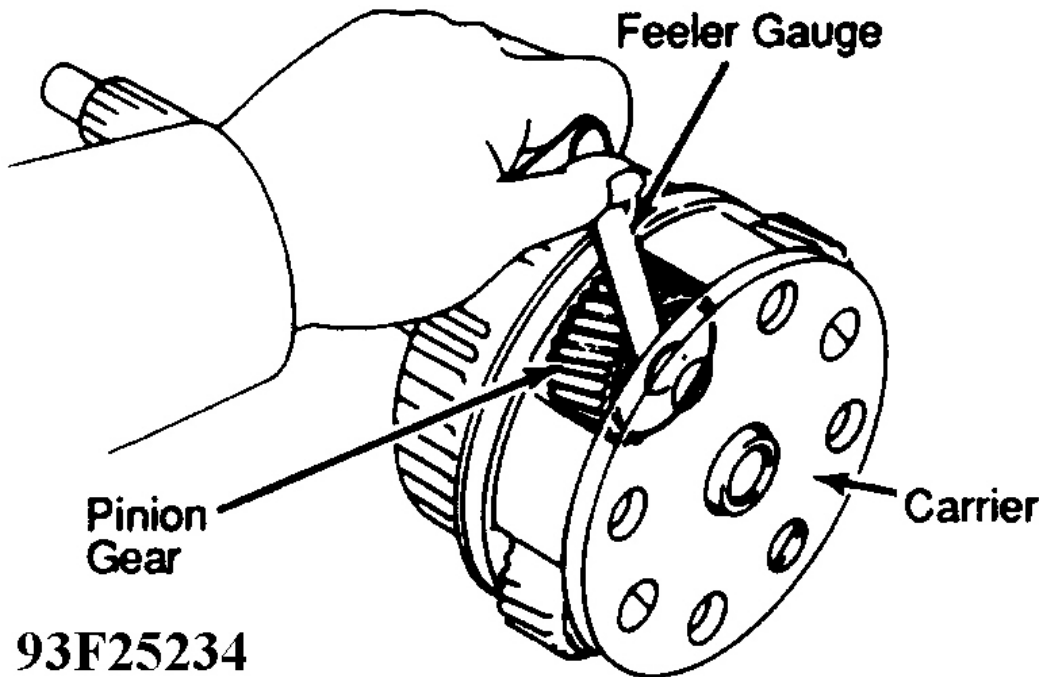

Fig. 21: Measuring Planetary Pinion Thrust Clearance
5. Inspect planetary pinion gear thrust clearance. Measure thrust clearance between pinions and carriers. See **Fig. 21**. Standard clearance is .0079-.0232" (.200-.590 mm). Maximum clearance is .0315" (.800 mm). If thrust clearance is excessive, replace planetary gear.